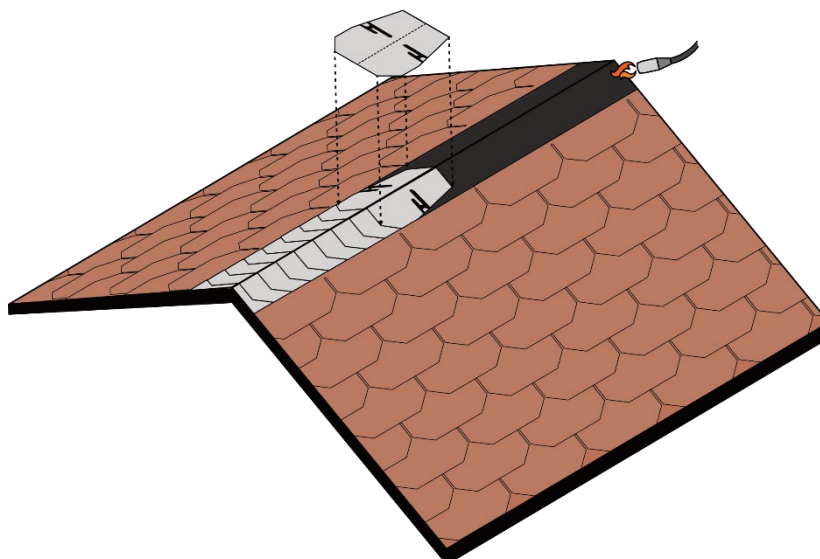

Fig. 19 - Ridge elements installation by torch
- Apply a band of bituminous membrane Safety EPP on the ridge by torch - Fig. 19.
- Proceed with the installation of the other ridge elements in sequence, leaving an exposed part of 9 cm between one element and the next, see Fig. 19.